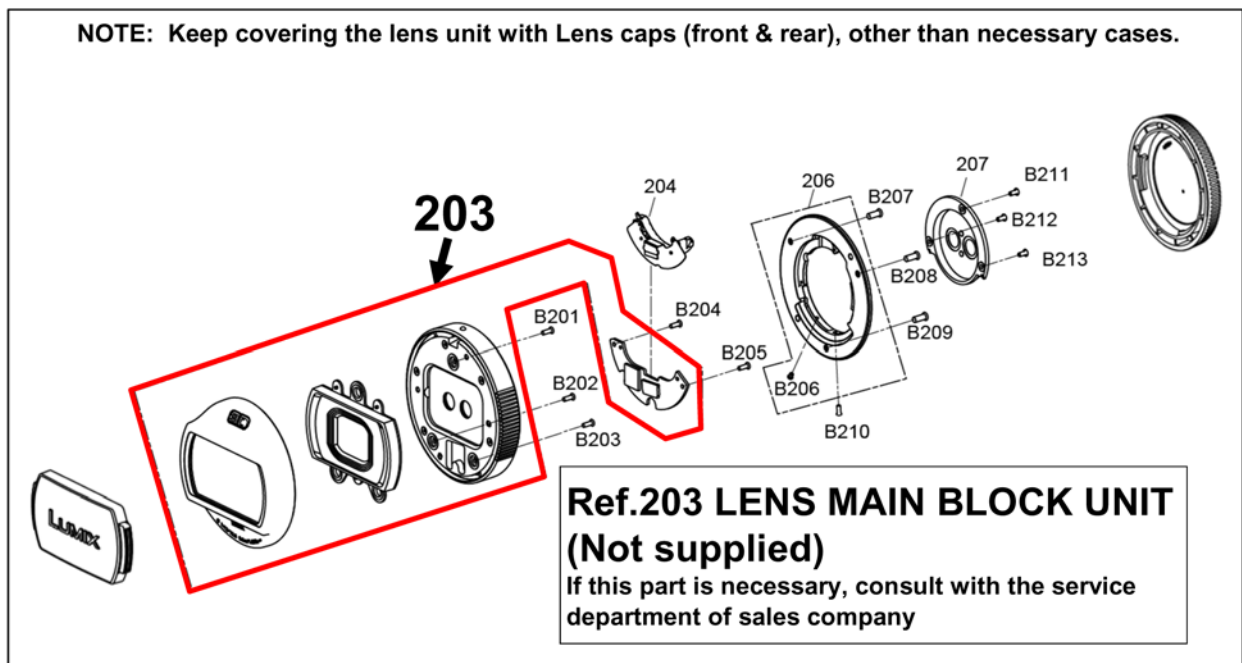

Fig. S1
4. No adjustment is required when replacing the part mentioned on Fig.S1. But, when tighten the concerned screws, apply proper torque mentioned on "4 Disassembly / Assembly procedures".